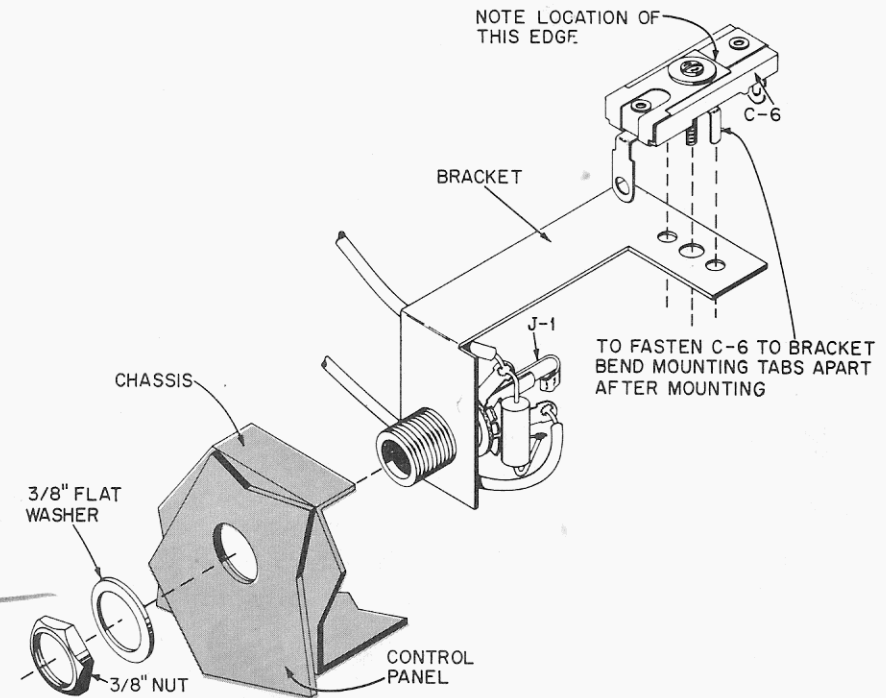

FIGURE 29
- C-6, 3-50 μμf trimmer capacitor and L shaped mounting bracket. Carefully study Figure 29. Position C-6 on the bracket exactly as it is shown. Insert the two mounting tabs in the holes in the bracket and bend them with your longnose pliers.